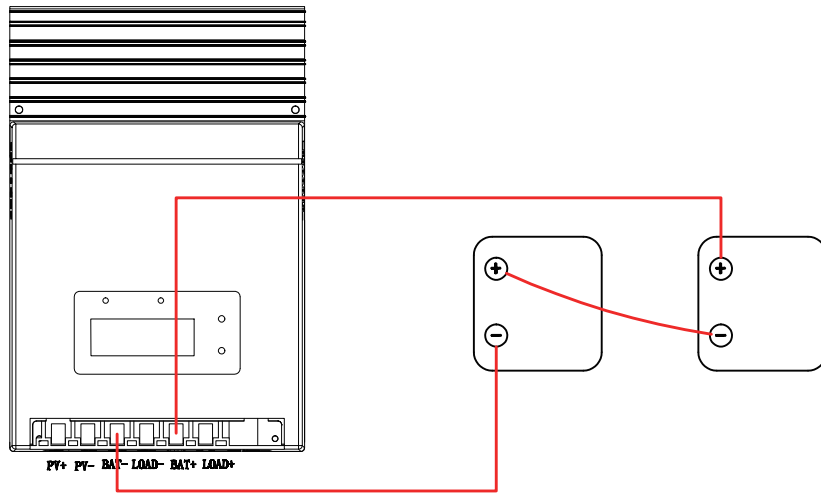

Figure 3-5. Batteries in series connection
1) Multiple batteries in series connection (Refer to Fig.3-5): All batteries must be equal in voltage and amp hour capacity. The sum of their voltage must be equal to the nominal DC Voltage of the unit.